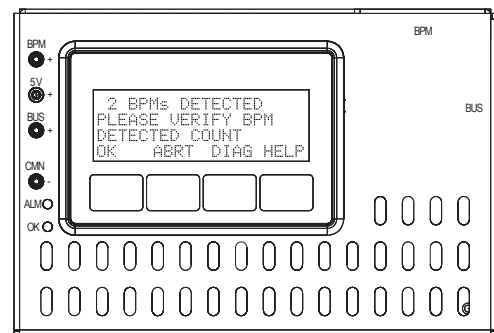

Fig. 5-5, BPM Detection Screen on BRD
5. Check BRD display to verify that two BPMs are detected. (See Fig. 5-5) This should reflect the BPM connected to the BRD BPM port and subsequent BMPs in the string.